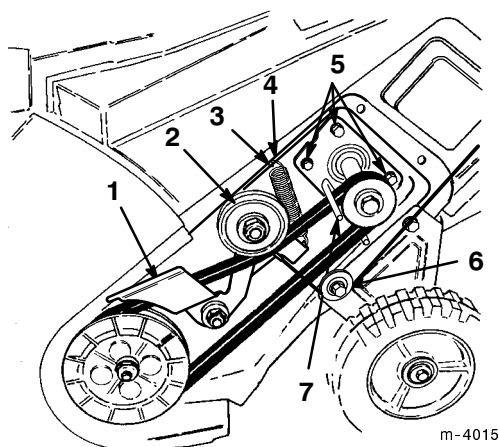

Figure 18
- Loosen the four engine mounting nuts enough to allow the belt guide to rotate away from the drive pulley to remove the belt (Fig. 18).
15. Ensure that the long end of the idler spring is hooked in the housing hole and the round end of the spring is hooked in the brake arm (Fig. 18).
16. Lift up the brake arm assembly, squeeze the drive belt together, and route the drive belt under the idler pulley (Fig. 18).
IMPORTANT: Ensure that the drive cable is on the cable pulley before you install the left side cover (Fig. 18)